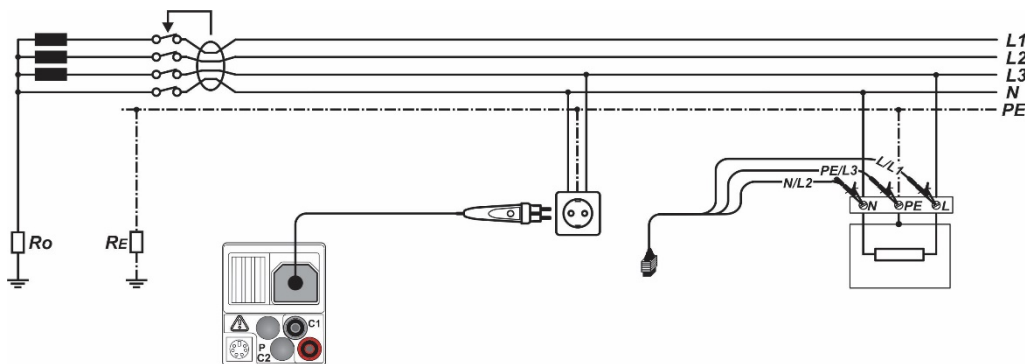

Figure 5.17: Connection of the optional "Commander" test plug (044149) and the three-wire test cable
- ❑ Connect the test cables to the test object (see figure 5.17).
- Connect the test cables to the test object (see figure 5.17).
<ul style="list-style-type: none"> <li><input type="checkbox"/> Select the F/RCD function by means of the function selector switch.</li> <li><input type="checkbox"/> Set the sub-function to AUTO.</li> <li><input type="checkbox"/> Set the testing parameters.</li> <li><input type="checkbox"/> Connect the test cables to the test object (see figure 5.17).</li> <li><input type="checkbox"/> Press the "TEST" key to start the measurement.</li> </ul>	Start of test